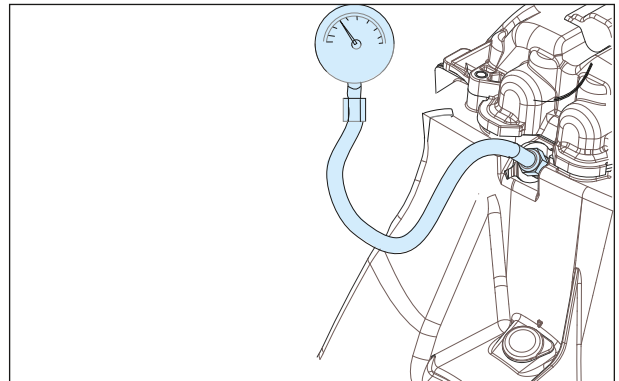

Fig. 2.21
- Mount the compression gauge adaptor to sparkplug hole, taking care to make the connection leak Proof. (Fig. 2.21)